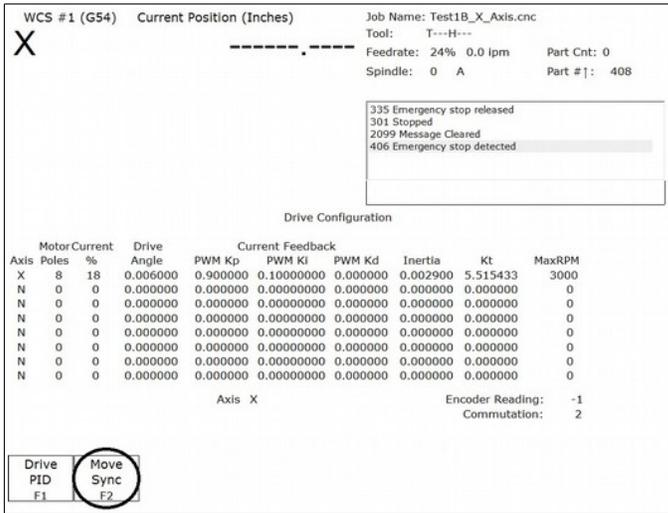
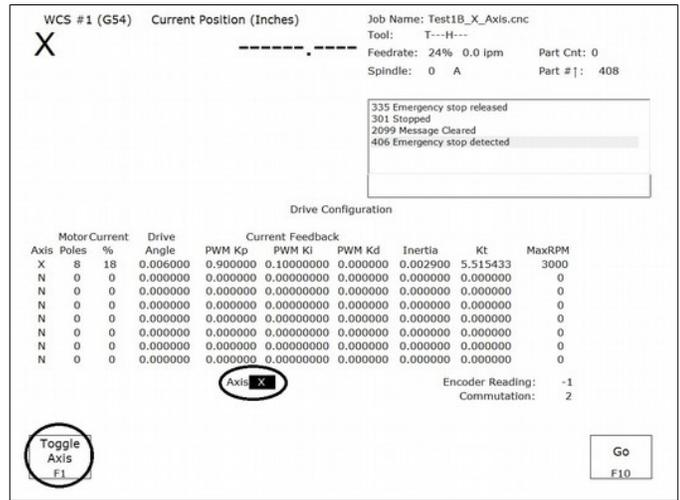

Figure 6.4.2
Figure 6.4.3
6. Press **F2-Move Sync** as circled in Figure 6.4.2. The axis selected is shown underneath PWM Kp as circled in Figure 6.4.3. If you are not on the correct axis, press **F1-Toggle Axis** until the correct axis label is on the screen. Finally press **F10-GO**. The shaft should rotate. The first move sync rotation may cause the motor to jerk or move roughly. Move sync a few more times by pressing **F2-Move Sync** then **F10-GO** repeatedly. All move syncs after the first sync should cause the shaft to rotate smoothly. **If the motor oscillates wildly, moves erratically, or makes loud unusual noises, kill the motor power immediately!**